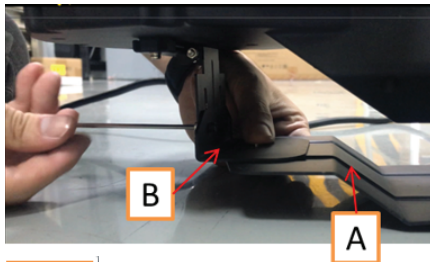
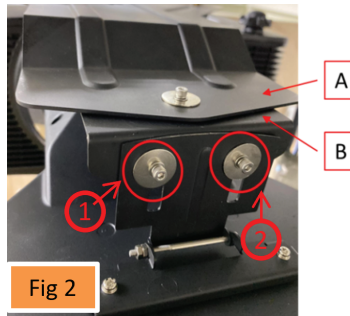
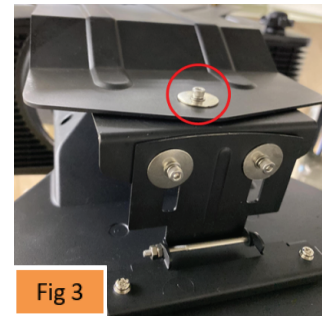

Fig 1
Fig 2
Fig 3
**Note:** To avoid affecting the projected image, do not use any force while fastening the screws. Start by fastening the screws by hand before using tools. And with your hand to make metal sheet B close to metal sheet A (Fig 1). tighten the screws (Fig 2), tighten the screw 1 around 180 degree then tighten the screw 2 around 180 degree, repeat until fully tightened. Tighten screw 3 (Fig 3). When tightening, do not use any force while fastening the screw.